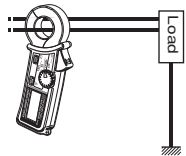

Fig.4 Measuring load current
- (1)Set the Range Selector Switch to the desired position. Current to measure should be within the selected measuring range.
(2)Measuring load current (See Fig.4):